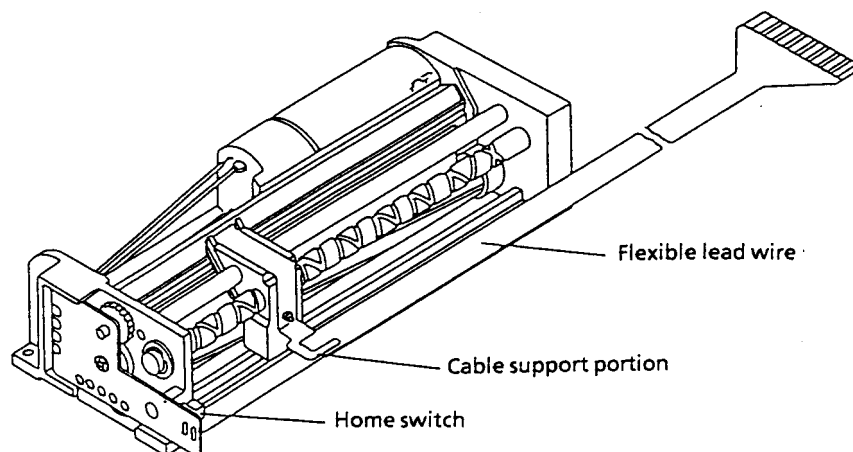

Figure 8-19 Inserting the Flexible Cable
- ⑥ Insert the flexible cable into the cable support of the flexible cable plate with care not to bend the heat compressor of the head unit (see Figure 8-19).